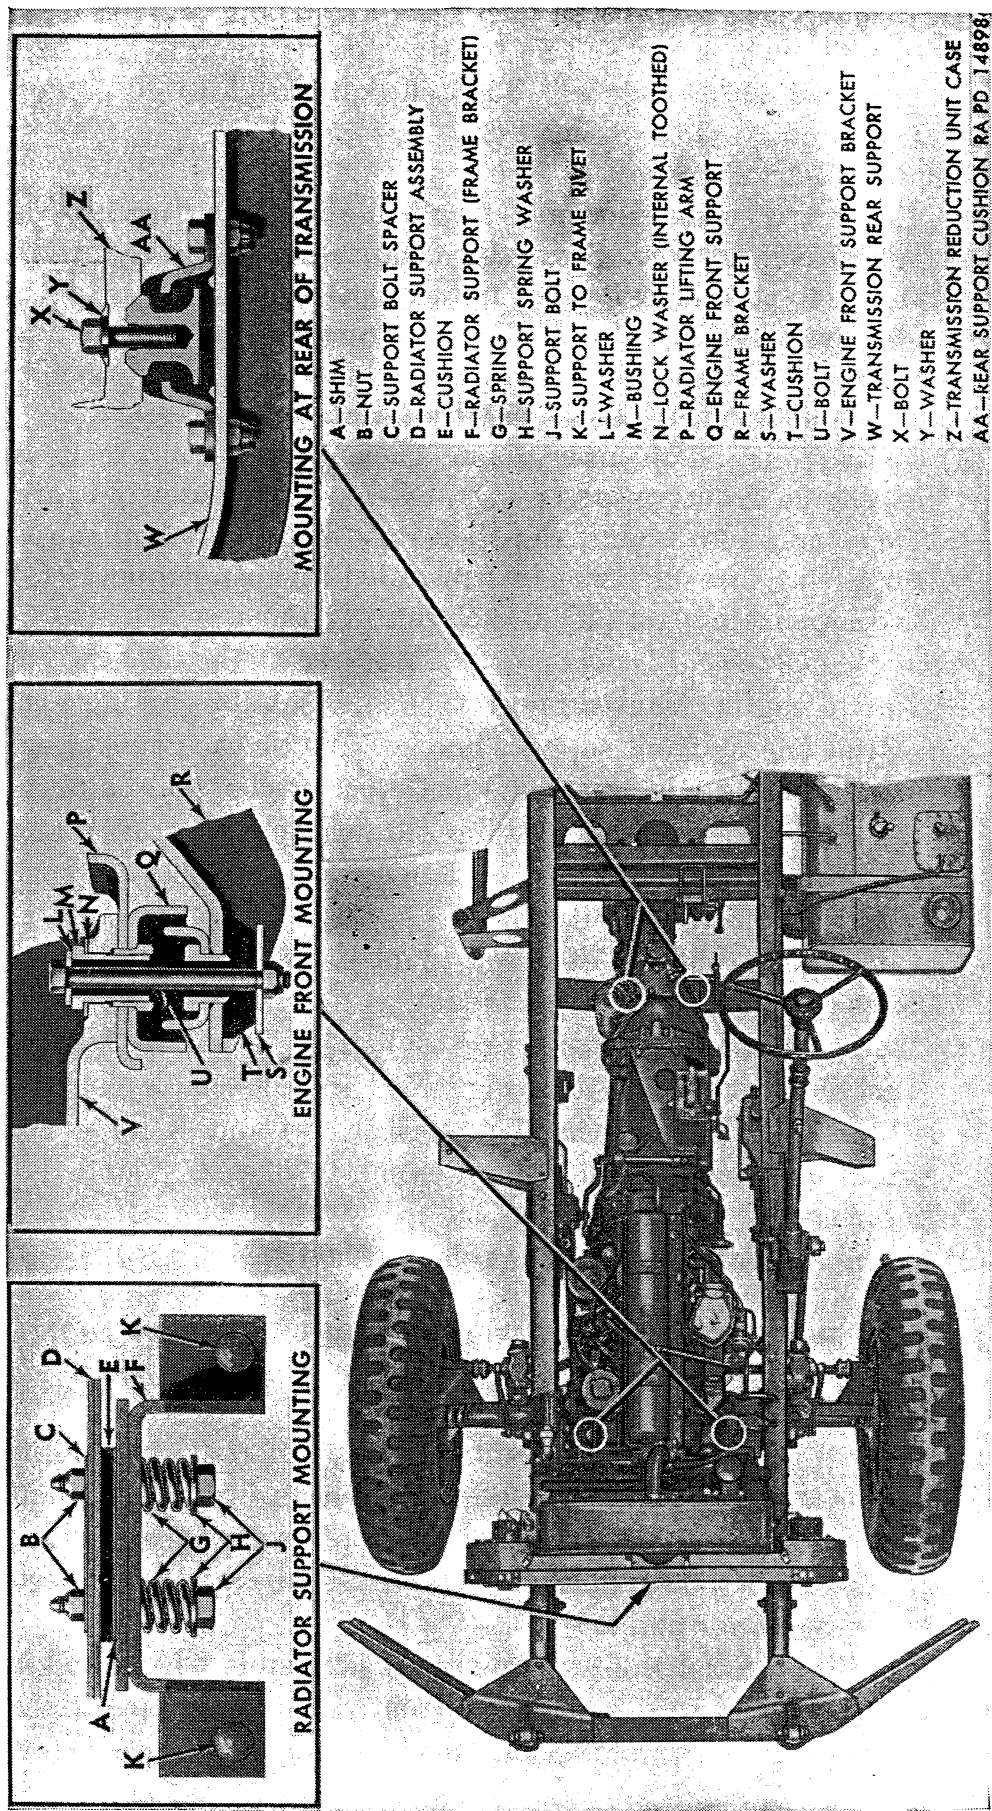
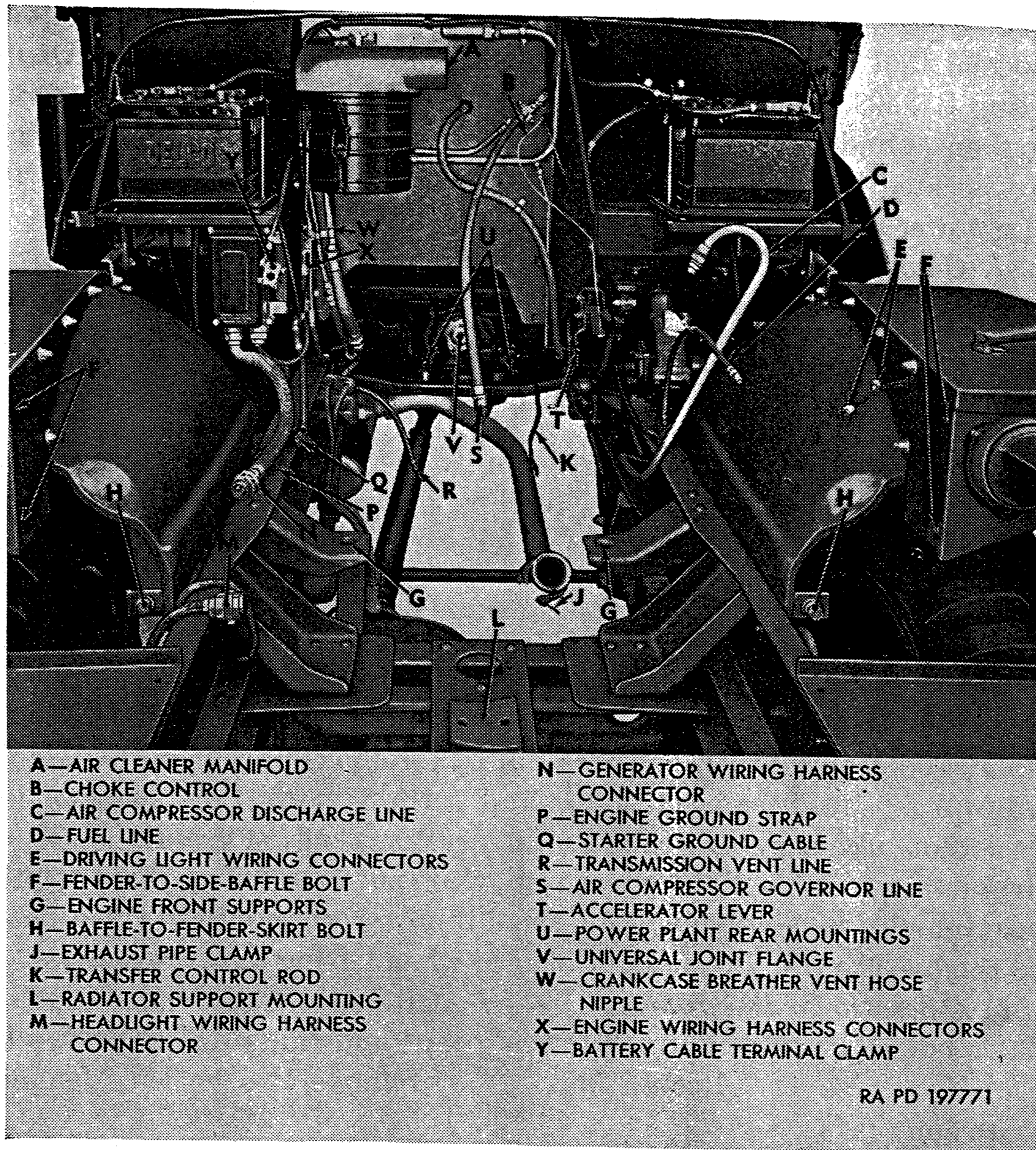
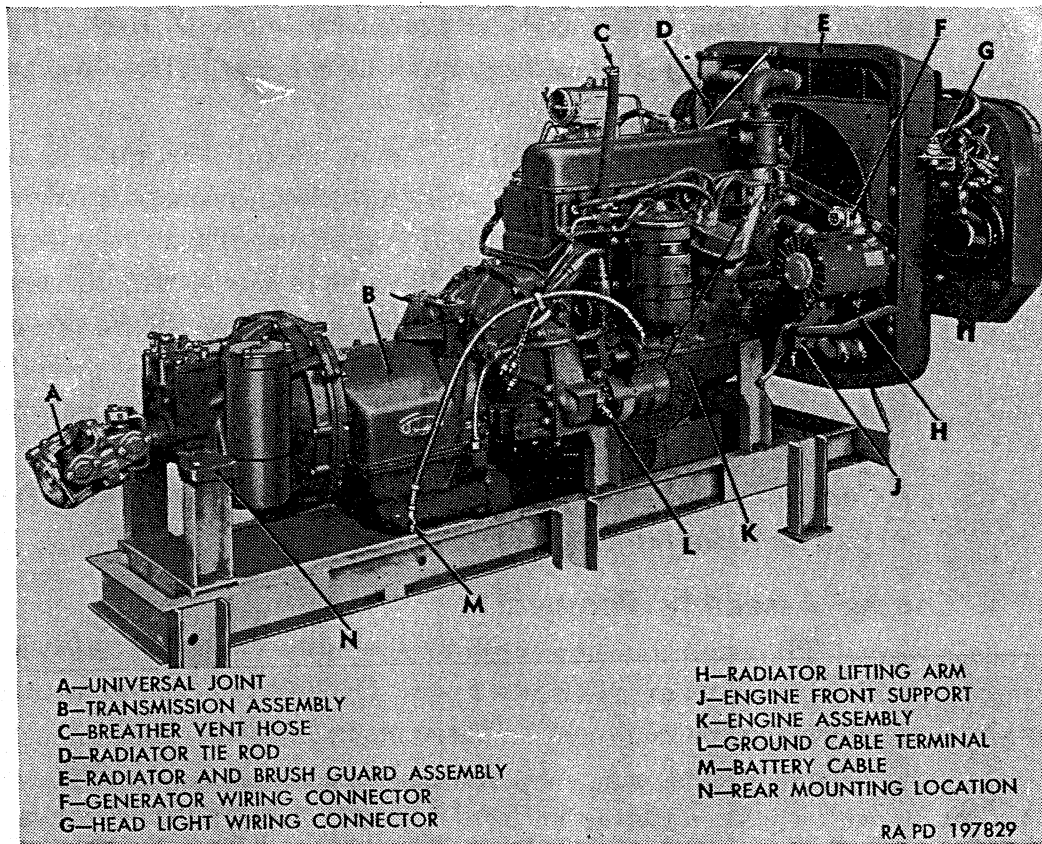
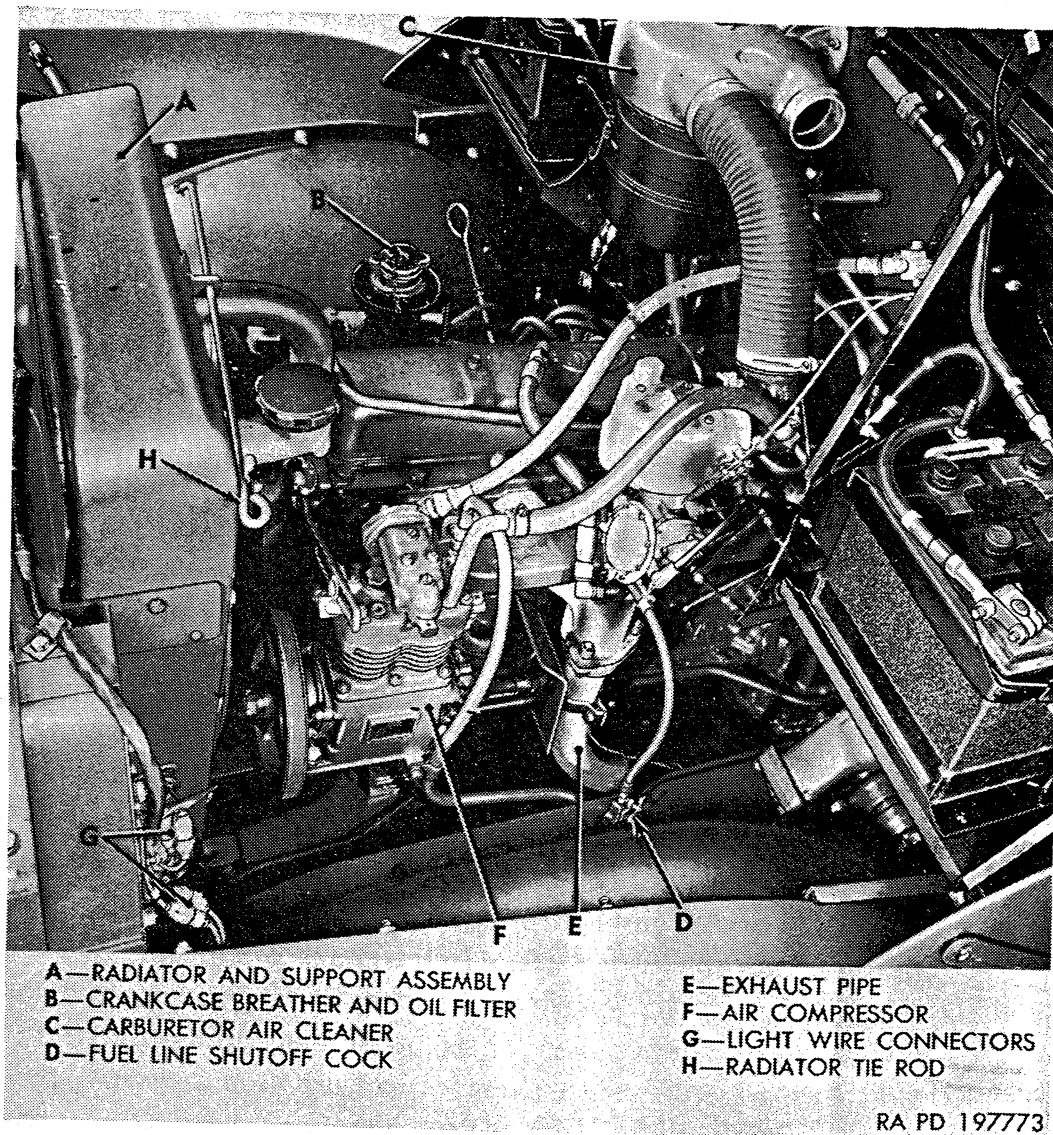

Figure 108. Power plant mountings.
Figure 109. Disconnect points for power plant removal.
Figure 111. Power plant assembly removed from vehicle.
Figure 112. Power plant installed—left side shown.
(fig. 108)
*Note.* The key letters noted in parentheses are in figure 109, except where otherwise indicated. These key letters indicate disconnect points.
*b. Operations at Front of Vehicle.* Remove two fender-to-side-baffle bolts (F) which attach brush guard and radiator side baffles to each front fender. Loosen but do not remove two baffle-to-fender skirt bolts (H).
- (1) Attach radiator tie rod (D, fig. 111) at special stud at left side of cylinder head. Tie rod is clipped to radiator support for use only when removing power plant assembly.
- (2) Disconnect headlight wiring harness connector (M) at right side of radiator, and generator wiring harness connector (N) at generator, using spanner wrench.
- (3) On gasoline tank trucks M217 and water tank trucks M222, disconnect Mechanovac governor flexible drive shaft at governor speed unit attached to flywheel housing.
- (4) Remove four bolts connecting transmission-to-transfer universal joint flanges (V).
- (5) Remove clamp (J) which connects front and rear exhaust pipes.
- (6) Remove nuts from bolts at engine front supports (G). Remove large plain washer and cushion from lower end of each mounting bolt.
- (7) Remove two bolts from radiator support mounting (fig. 108). A spring and a washer are installed on each bolt.
*a. General.* The complete power plant assembly (fig. 111) must be removed from vehicle as an assembly (pars. 116 and 117), after which engine assembly may be removed as directed in this paragraph.
*Note.* Two-piece flywheel housing is part of engine assembly, and both halves must remain with engine on which they were originally installed. These halves include engine serial number as illustrated in figure 208. The key letters noted in parentheses are in figure 108, except where otherwise indicated.
- (1) Loosen radiator hose clamps and twist hoses to loosen from radiator and engine.
- (2) Remove nut holding radiator tie rod to cylinder head stud. Clip tie rod (D, fig. 111) in place at radiator support.
- (3) Lift radiator and brush guard assembly off radiator lifting arms and remove from engine.
*d. Engine Front Support Removal* (fig. 108). Remove bushing (M) and lockwasher at each front mounting bracket, and remove engine front supports (Q) and radiator lifting arms (P). Swing air compressor toward engine to provide sufficient clearance for removing bushing (M) and bolt (U).
*a. General.* A complete power plant composed of engine assembly, mountings, transmission, and radiator assembly must be installed as a unit (fig. 111).
- (1) Remove flywheel housing rear half from engine; then install housing rear half and torus members on transmission (par. 205c).
- (2) Install transmission on engine (par. 205d).
*c. Engine Front Support Installation (fig. 108).*
- (1) Locate engine left front support (Q) and radiator lifting arm (P) at engine front support bracket; then thread bushing (M) with new 1-inch internal-teeth lockwasher through support bracket and into support assembly.
*Note.* Air compressor must be tilted toward engine to provide sufficient clearance for installing bushing (M) and bolt (U).
- (2) Attach engine support (Q) and radiator lifting arm (P) at right support bracket, using bushing (M) and 1-inch internal-teeth lockwasher. Tighten bushings into supports.
- (1) With upper and lower radiator hose installed on engine, lift radiator support and brush guard assembly into position at front of engine. Engage lifting brackets on radiator support with lifting arms on engine; radiator hose must fit onto radiator inlet and outlet.
- (2) Position radiator tie rod (D, fig. 111) at cylinder head special stud and install stud nut.
- (3) Position radiator hose clamps, but do not tighten clamps until power plant is installed in vehicle.
*Note.* The key letters noted in parentheses are in figure 109, except where otherwise indicated.
- (2) Carefully lower power plant into position as it is moved rearward, taking care to avoid damaging lines, wiring, and cables. Fit front exhaust pipe into rear pipe, using new seal (par. 138c). Do not rest power plant solidly on mountings until shims and cushion (A and E, fig. 108) are in position on bracket. Boltholes in bracket, cushion, and shims must be alined with holes in radiator support. Insert special  $\frac{3}{8}$ -24 x  $4\frac{1}{2}$  mounting bolt and large  $1\frac{5}{32}$ -inch plain washer through engine right front mounting. Detach radiator tie rod (H, fig. 112) from cylinder head special stud and clip tie rod in place at radiator support.
- (1) Aline holes in universal joint flanges (V) at rear of transmission and install four  $\frac{1}{2}$ -20 x  $1\frac{3}{8}$  bolts with  $\frac{1}{2}$ -20 safety nuts. Tighten nuts to 48 to 64 pound-feet torque.
- (2) Assemble cushions, flat washers, and nuts on engine front mounting bolts (U, fig. 108) and tighten nuts to 20 to 27 pound-feet torque.